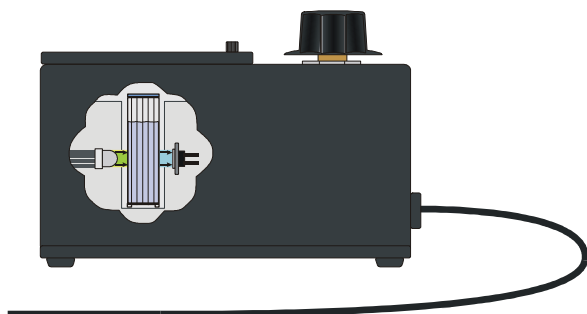

Figure 1
The primary objective of this experiment is to determine the concentration of an unknown nickel (II) sulfate solution. You will be using the Colorimeter shown in Figure 1. In this device, red light from the LED light source will pass through the solution and strike a photocell. The NiSO_4 solution used in this experiment has a deep green color. A higher concentration of the colored solution absorbs more light (and transmits less) than a solution of lower concentration. The Colorimeter monitors the light received by the photocell as either an *absorbance* or a *percent transmittance* value.